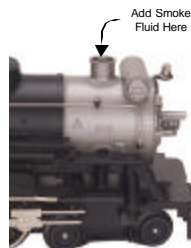

Figure 4. Add Smoke Fluid
1. You should prime the operating smoke unit with smoke fluid before operating. Add 15-20 drops of smoke fluid through the smokestack, then gently blow into the stack to eliminate any air bubbles in the fluid. See Fig. 4 on pg. 12.
When preparing to run this engine, add 15-20 drops of smoke fluid through the smokestack (see Fig. 4). We recommend M.T.H. ProtoSmoke, Seuthe, LGB, or LVTS fluids (a small pipette of ProtoSmoke fluid is included). Do not overfill the unit or the fluid may leak out and coat the interior engine components.